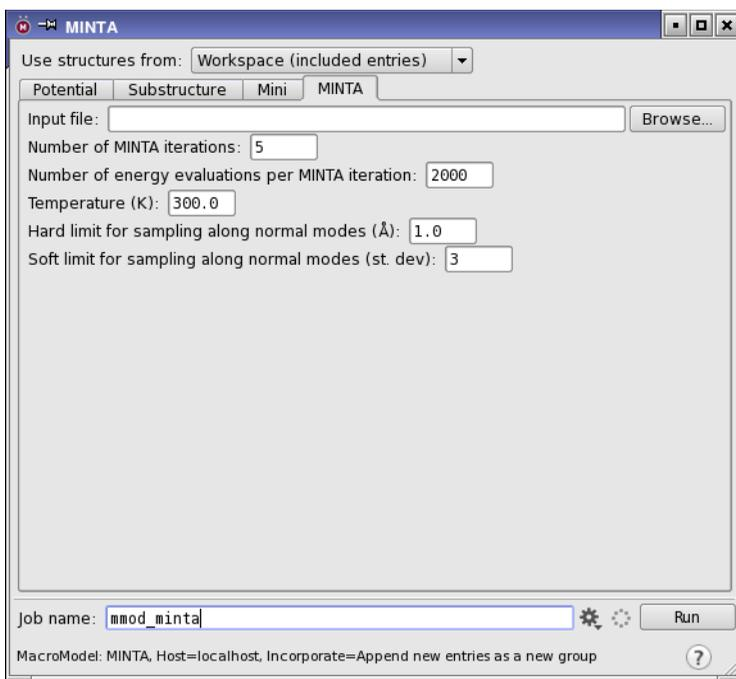

Figure 5.5. The MINTA panel showing the MINTA tab.
4. Choose Project Table (selected entries) from the Use structures from option menu (see Figure 5.5 on page 61).